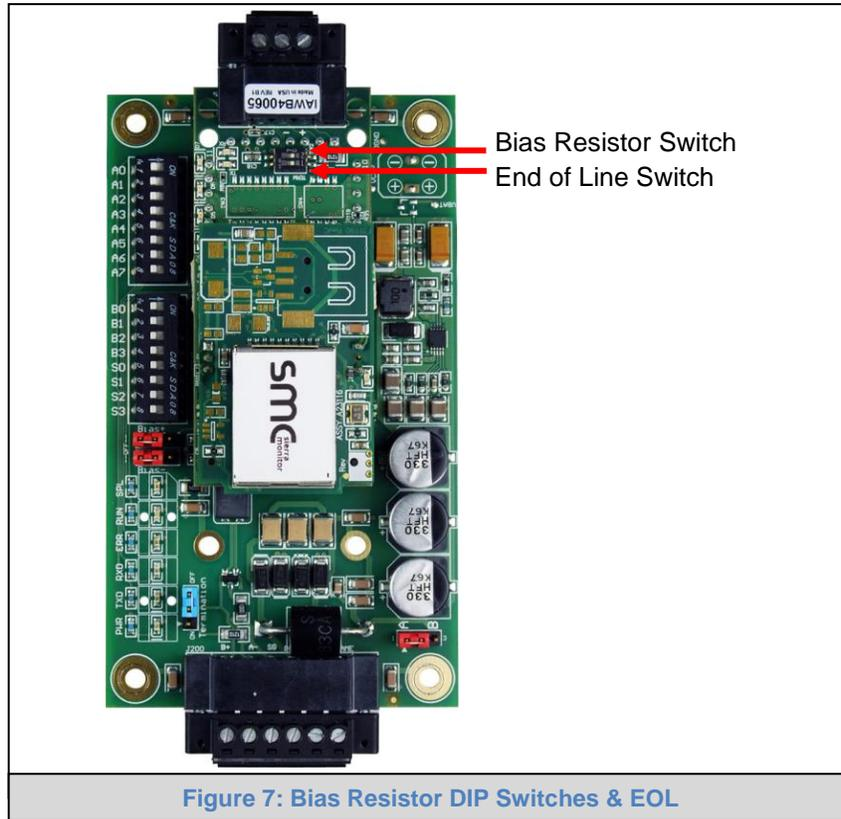

Figure 7: Bias Resistor DIP Switches & EOL
- If more than one RS-485 device is connected to the network, then the field bias resistor switch needs to be enabled to ensure proper communication. **See Figure 7 for the orientation of switch positions referenced below.**
- If the FieldServer is the last device on the trunk, then the end of line (EOL) termination switch needs to be enabled. **See Figure 7 for the orientation of switch positions referenced below.**